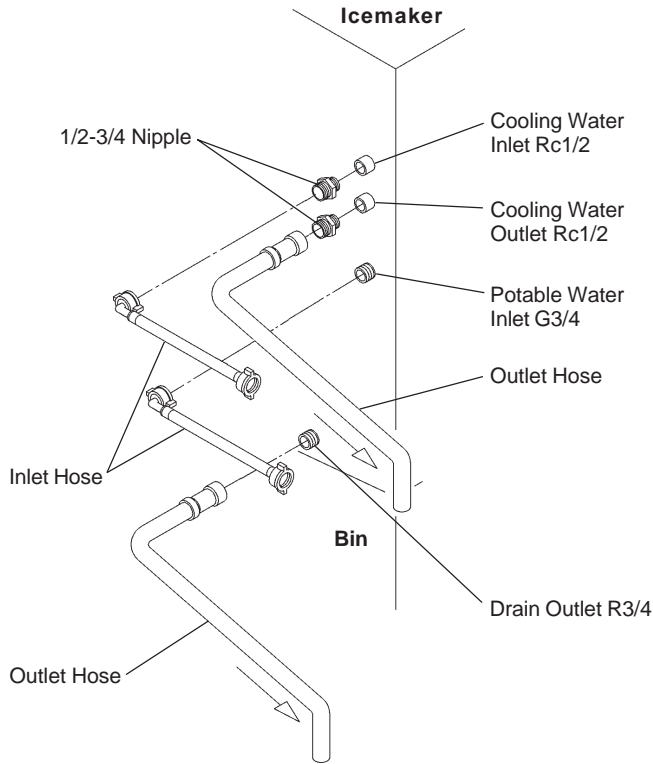

Fig. 11
**[b] Connections according to regulations other than WRC by utilising accessory hoses (Fig. 11)**
- 2) For Condenser connections, use supplied accessory hoses and make the same connections as 1) to 3) in [a] above to the free end of 1/2-3/4 nipples as indicated (Fig. 11).